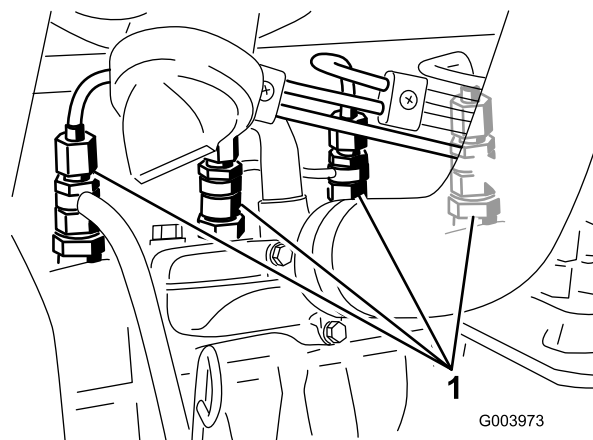

Figure 40
1. Loosen the pipe connection to the No. 1 nozzle and holder assembly (Figure 40).